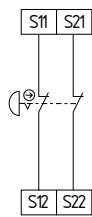

Fig. 7
**Dual-channel emergency stop circuit with command devices to EN ISO 13850 and EN 60947-5-5 (Fig. 7)**